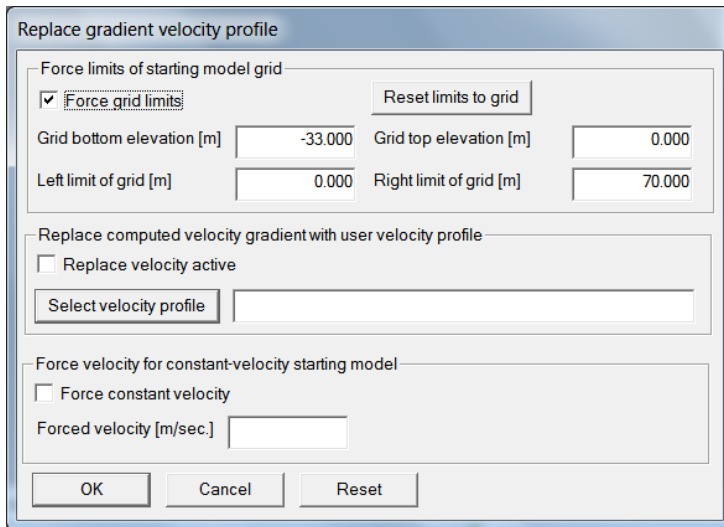

Fig. 9 : force limits of starting model grid with *Smooth invert|Custom 1D-gradient velocity profile...*
- select *Smooth invert|Custom 1D-gradient velocity profile...* . See Fig. 9.
- edit starting model grid limits as in Fig. 9. Check box *Force grid limits* and click button *OK*.